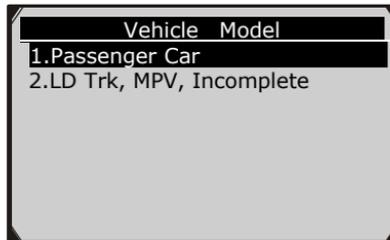

Figure 6.4
- 3) From **Vehicle Model** menu choose the specific vehicle type. (Figure 6.4)